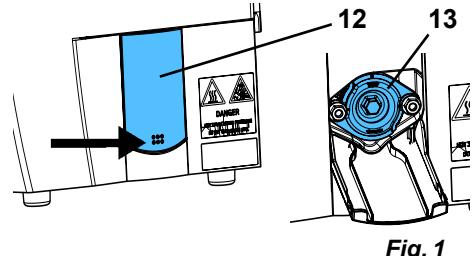

Fig. 1
Plaster models or investment models can be left to dry on the model tray (2, Fig. 1).
- ⇒ Screw in the tank cap (1, Fig. 1).
- !** **Place the unit so that there is no risk if steam is discharged from the outlet opening of the overpressure valve (14, Fig. 1). For example, do not place the unit in front of an electrical socket.**
- !** **The outlet opening of the overpressure valve (14, Fig. 1) must not be closed or blocked in any way.**
Danger due to pressurized steam! Before opening the revision cap, ensure that the pressure tank is no longer pressurized. To do so, open the tank cap (1, Fig. 1) and remove it.
⇒ Place the unit so that water can flow from the service opening (12/13, Fig. 1) into a sink.